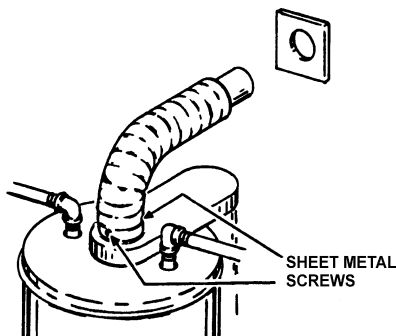

FIGURE 9
5. As an aid to leveling the 5 inch elbow, temporarily place the 5 inch sliding tube onto the elbow. When leveled, drill a 1/8 diameter hole through the elbow into the collar at the front and back. Secure with the two #8 sheet metal screws provided. See figure 9.